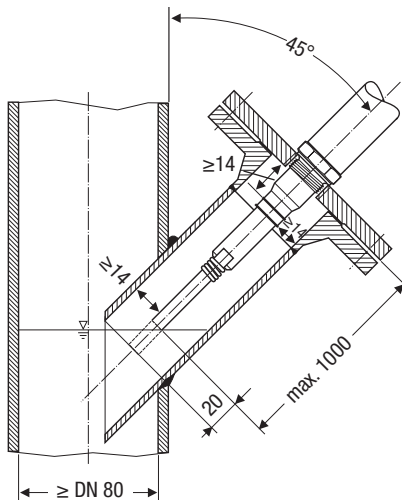

Fig. 16 Inclined installation, e. g. in ascending inlet lines of hot-water installations or vessels
- The angle of inclination of the electrode must not exceed 45°, with the length of the electrode rod being limited to 1000 mm. **Fig. 16, 20**
- For outdoor installations please use level electrode NRG 1...-50 F. Level electrodes with this suffix (F) feature a terminal box made from aluminium.